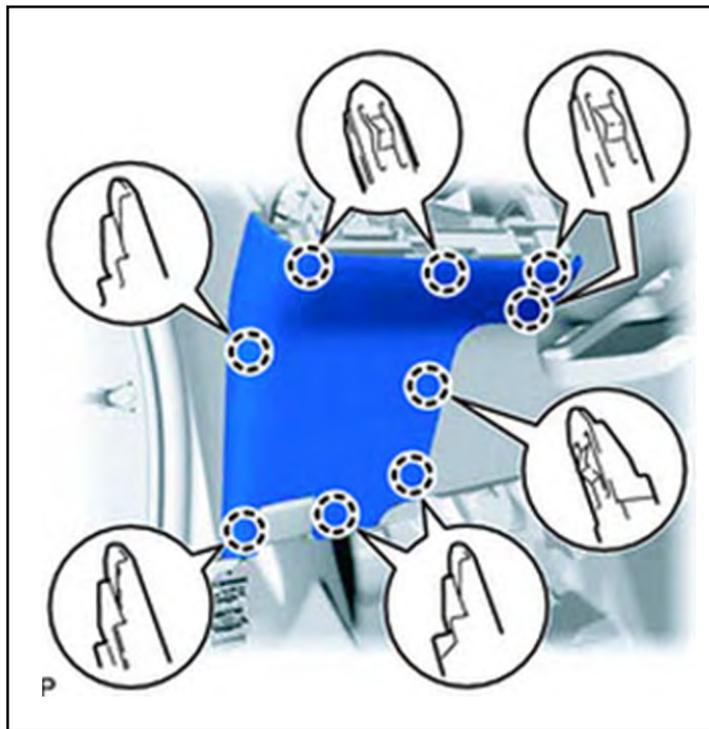
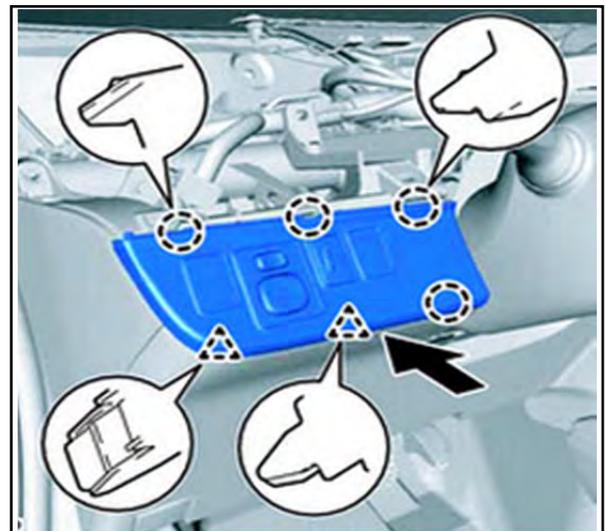

Figure 21a
Figure 21b
21. Engage the 9 claws to install the lower instrument panel finish panel LH as shown in the illustration. Connect each connector. Engage the 4 claws and 2 clips to install the No. 1 switch base. See figure 21a and figure 21b.